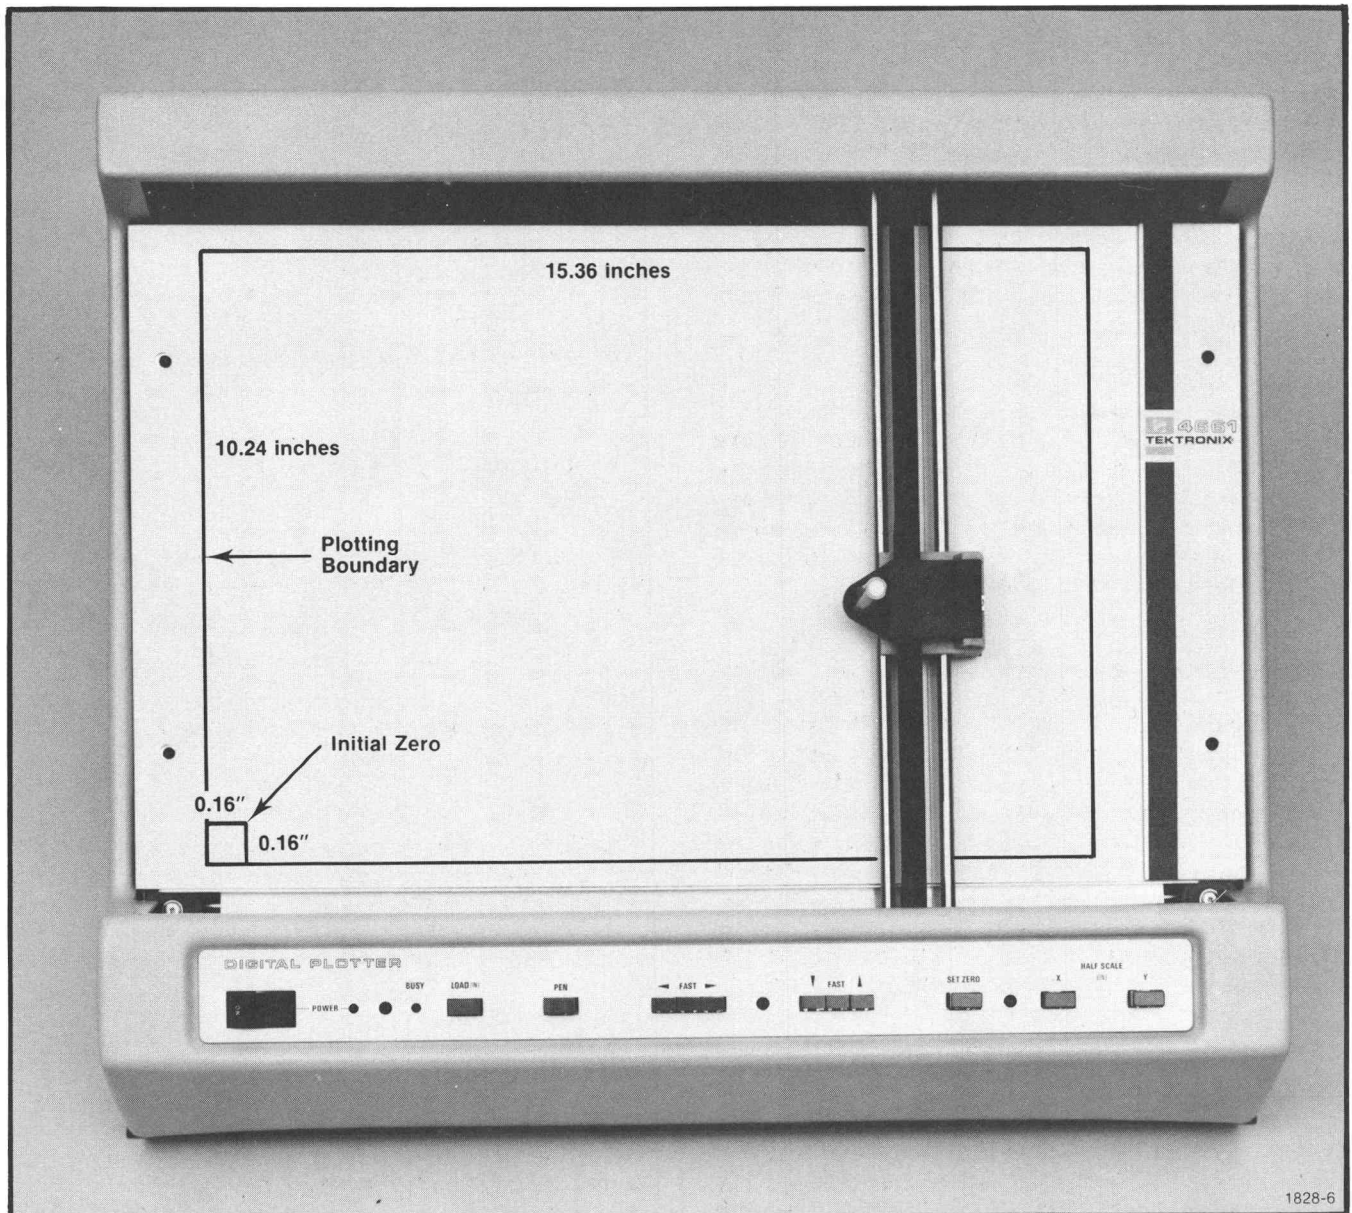

Fig. 1-13. Offscale Plotting Boundary and Initial Zero.
**Initial Restart** When the POWER switch is turned on, the pen carriage moves to the right plotting boundary, then to the lower right corner, where it stops. The plotting origin is established near the lower left corner of the plotting boundary. See Fig. 1-13.